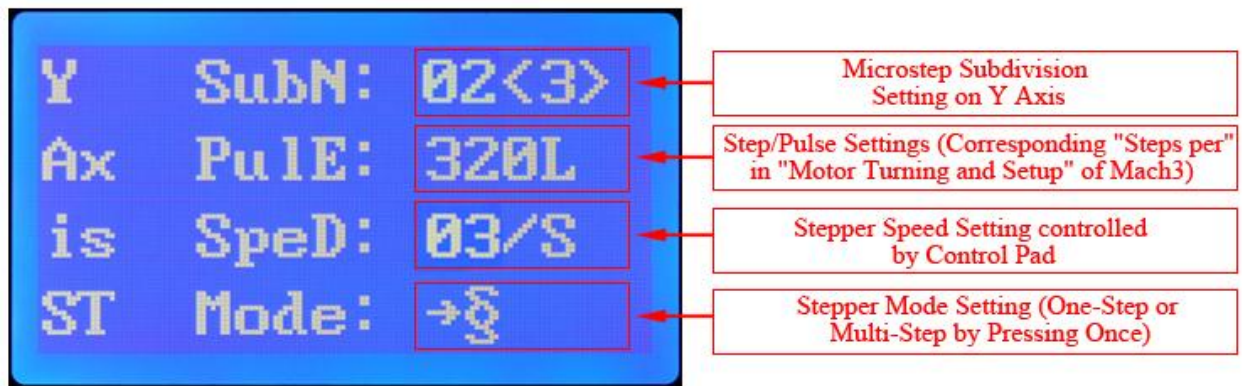

Figure 14: Y Axis Running Parameters Setting
- After finishing “X Axis Running Parameters Setting”, please press the “ST” key on control pad again to skip to the “Y Axis Running Parameters Setting” in “Figure 14”.